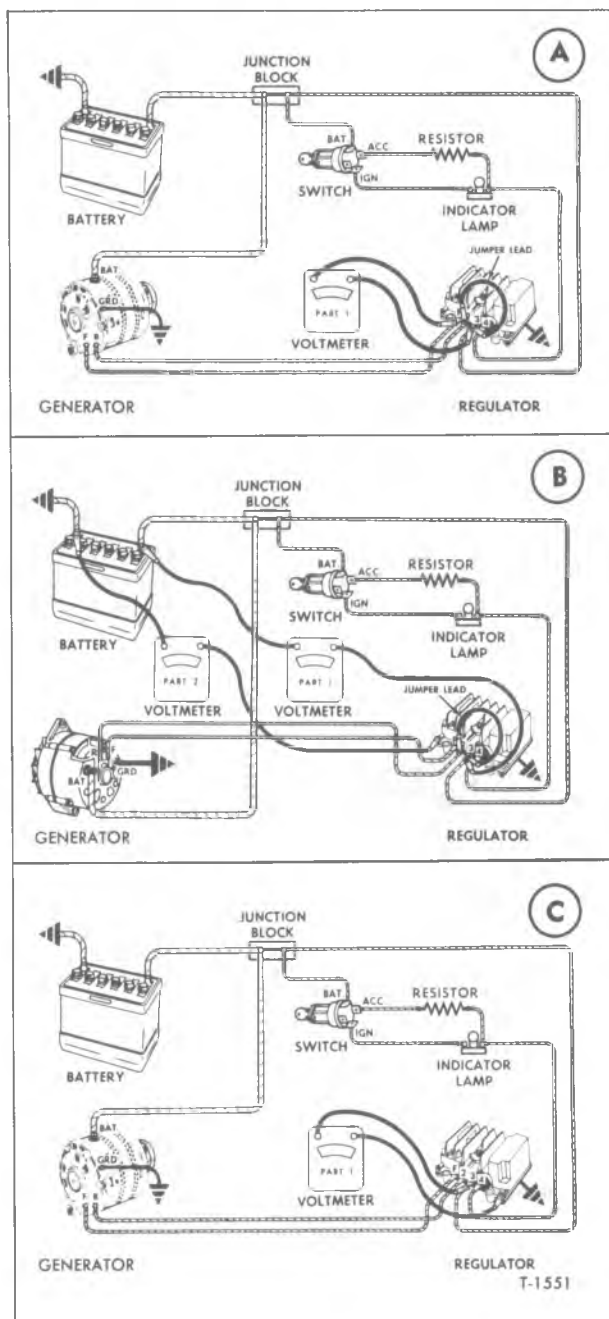

Figure 17—Connections for Testing 1116378 Regulator Voltage Setting (Typical)
1. Make connections as shown in View A, figure 17.
a. Make connections as shown in View B, Part 1, figure 17, and record the voltage drop.
b. Connect a voltmeter between battery ground terminal and ground on regulator base as shown in View B, Part 2, figure 17, and record the voltage drop.
d. If total voltage in Step c. is below 0.25 volt, connect a voltmeter between regulator No. 3 terminal and ground on regulator base as shown in View C, figure 17; then with switch on, operate engine at 1275 rpm for 15 minutes. Leave cover on regulator. Place a thermometer  $\frac{1}{4}$ -inch from